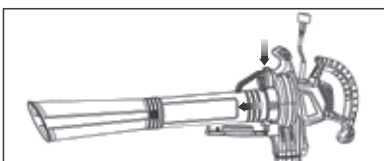

Fig. 11
5. To remove the vacuum/mulcher/tube, depress the lock button and pull straight off (Fig. 11).